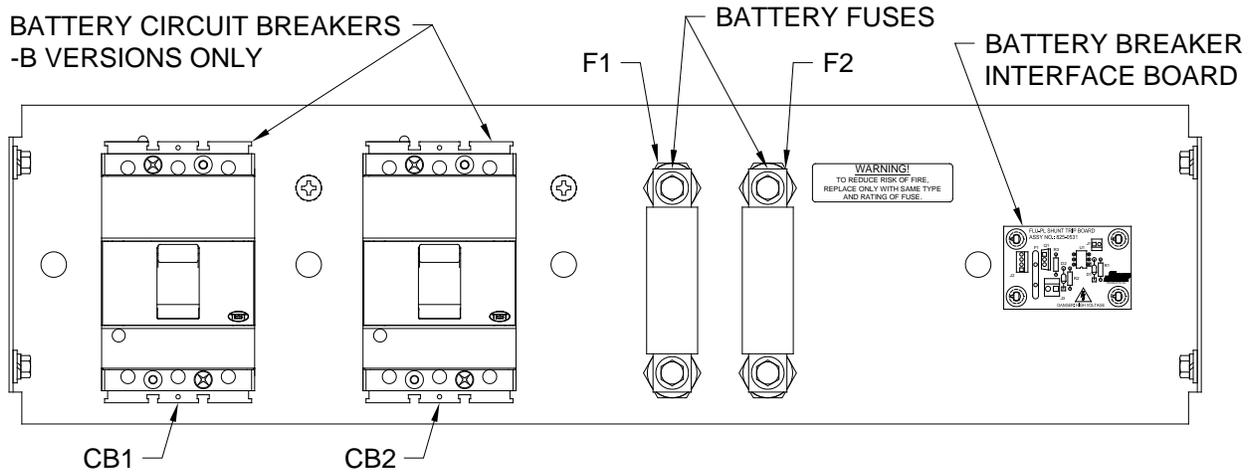
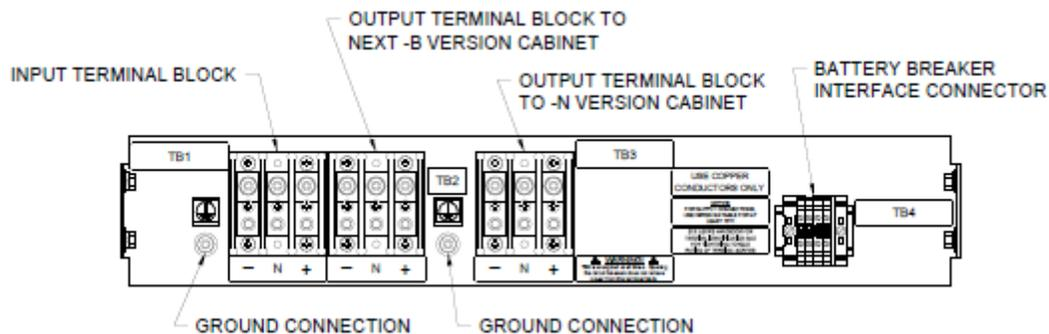

Figure 8 - Circuit Breaker Panel
Figure 9 - Connection Panel
5. Before working within the UPS cabinet, verify that the UPS has no power applied. Before touching the Extended Run Time Battery connector in the UPS, verify that all internal battery strings are disconnected (that is, verify that the blue and white “powerpole” connectors are NOT mated). Refer to the UPS manual. Repeat procedures 3 and 4 to the UPS Extended Run Time Battery connector located in the lower left side of the UPS. We recommend that the wires be marked as to which is positive (+) and negative (-) to ensure that the wires are not accidentally crossed. See **Figure 8** and **Figure 9**.
Figure 9 shows the location of the Battery Breaker Interface terminal block on the battery cabinet.